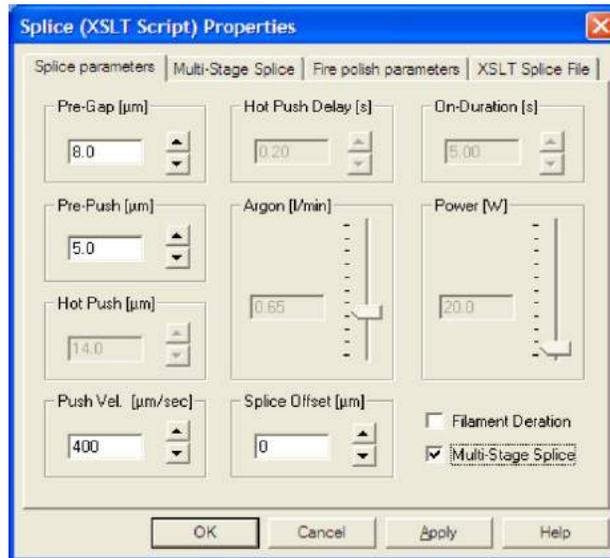

Figure 29 Activating Multi-Stage Splice
- The normal default is for Multi Stage Splice to be disabled. Check the Multi Stage Splice check box as shown in Figure 29.